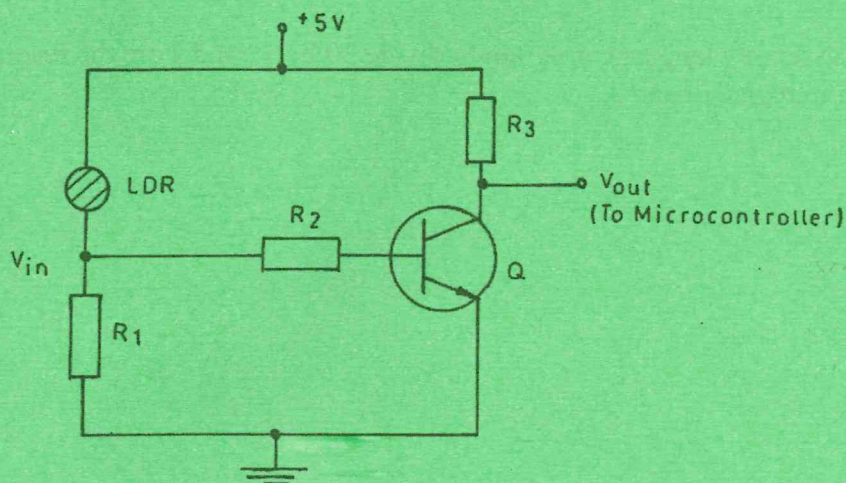

Fig.2
- (c) Figure 2 shows a circuit diagram of a microcontroller input drive.